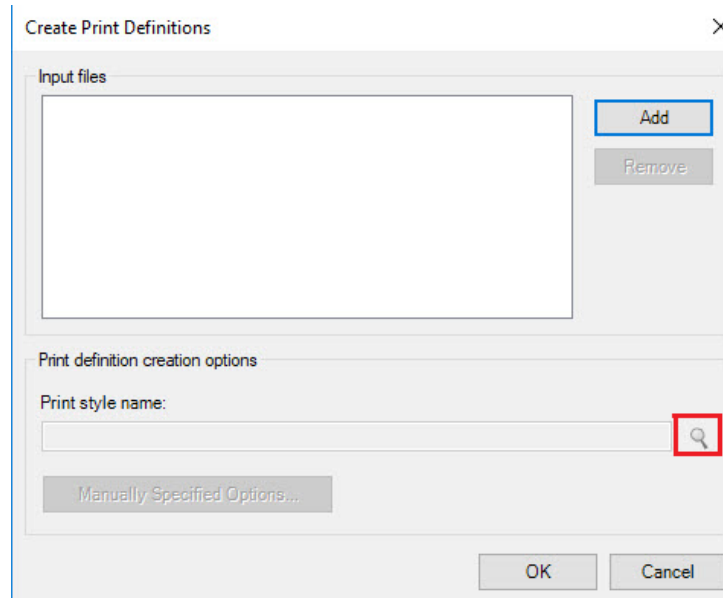

Figure 33 “Print Style Name”
Step 10. Next, select the magnifier to the right of Print Style Name (Figure 33 below)